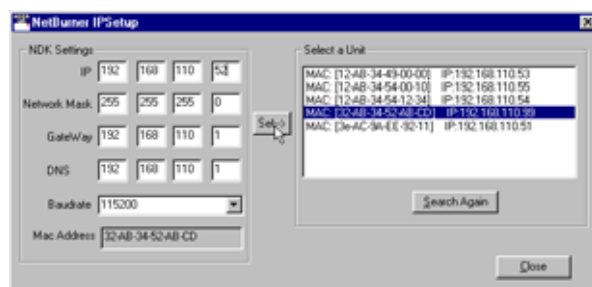

FIG. 35: IP SETUP/SETTING NEW ADDRESS
- Step 6. Click in each IP address field that you want to change. **REMEMBER DO NOT DUPLICATE IP ADDRESSES.** Type in the new IP Address. In our example we changed "192.168.110.99" to "192.168.110.52". (See Fig. 35)